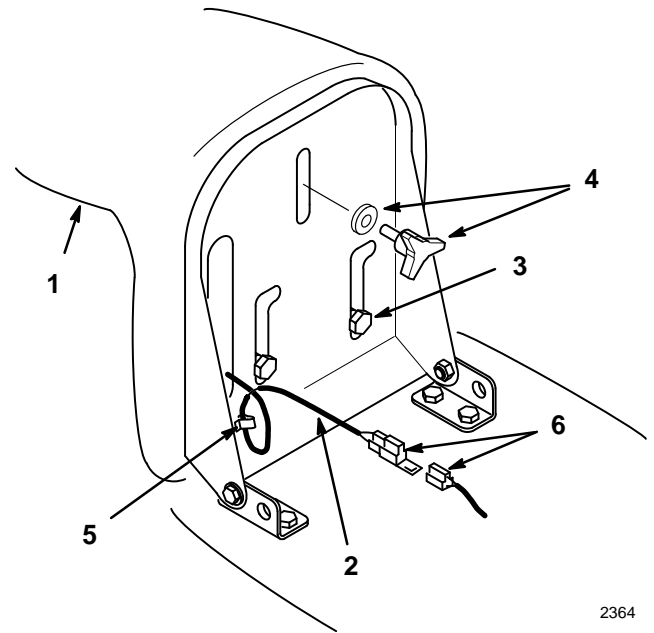

Figure 4
1. Insert seat switch wire cable through the hole in the seat base (Fig. 4).
2. Position the seat onto the seat base by inserting the two shoulder bolts through key hole openings at the end of both slots (Fig. 4).
3. Thread the knob and flat washer through slot into the rear center hole in the seat (Fig. 4). Adjust the seat and tighten the knob.
4. Push the seat switch connector fully into the wire harness connector (Fig. 4).
5. Secure the seat switch wire cable to seat base with wire clip (Fig. 4).